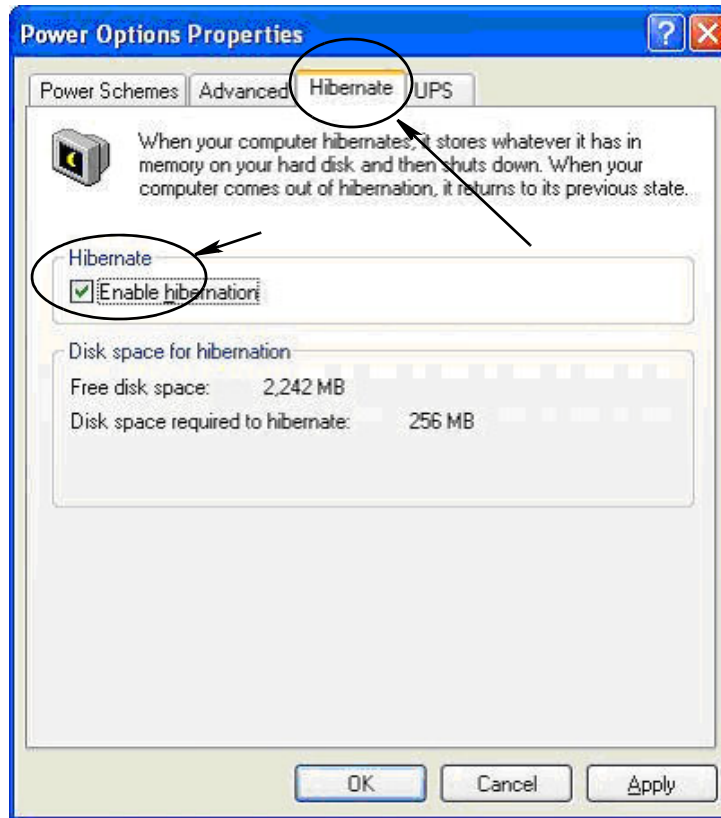

FIG. 48
3. Select the Hibernate tab. Turn off hibernation by clearing (unchecking) the Enable Hibernation check box. Click Apply and OK to close all windows (FIG. 48) and save the changes.